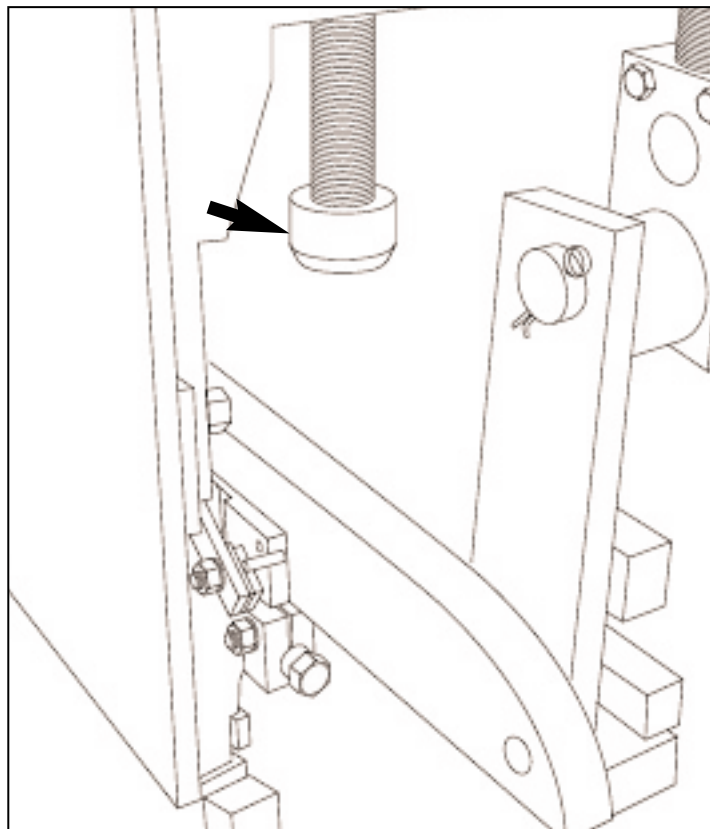

Figure 5.39 SHOCK ABSORBERS.
- 5.9.12 The machine is ready to run; final adjustment may be needed when production is started. The shock absorbers should be adjusted so they take equal load on each side (see figure 5.39).